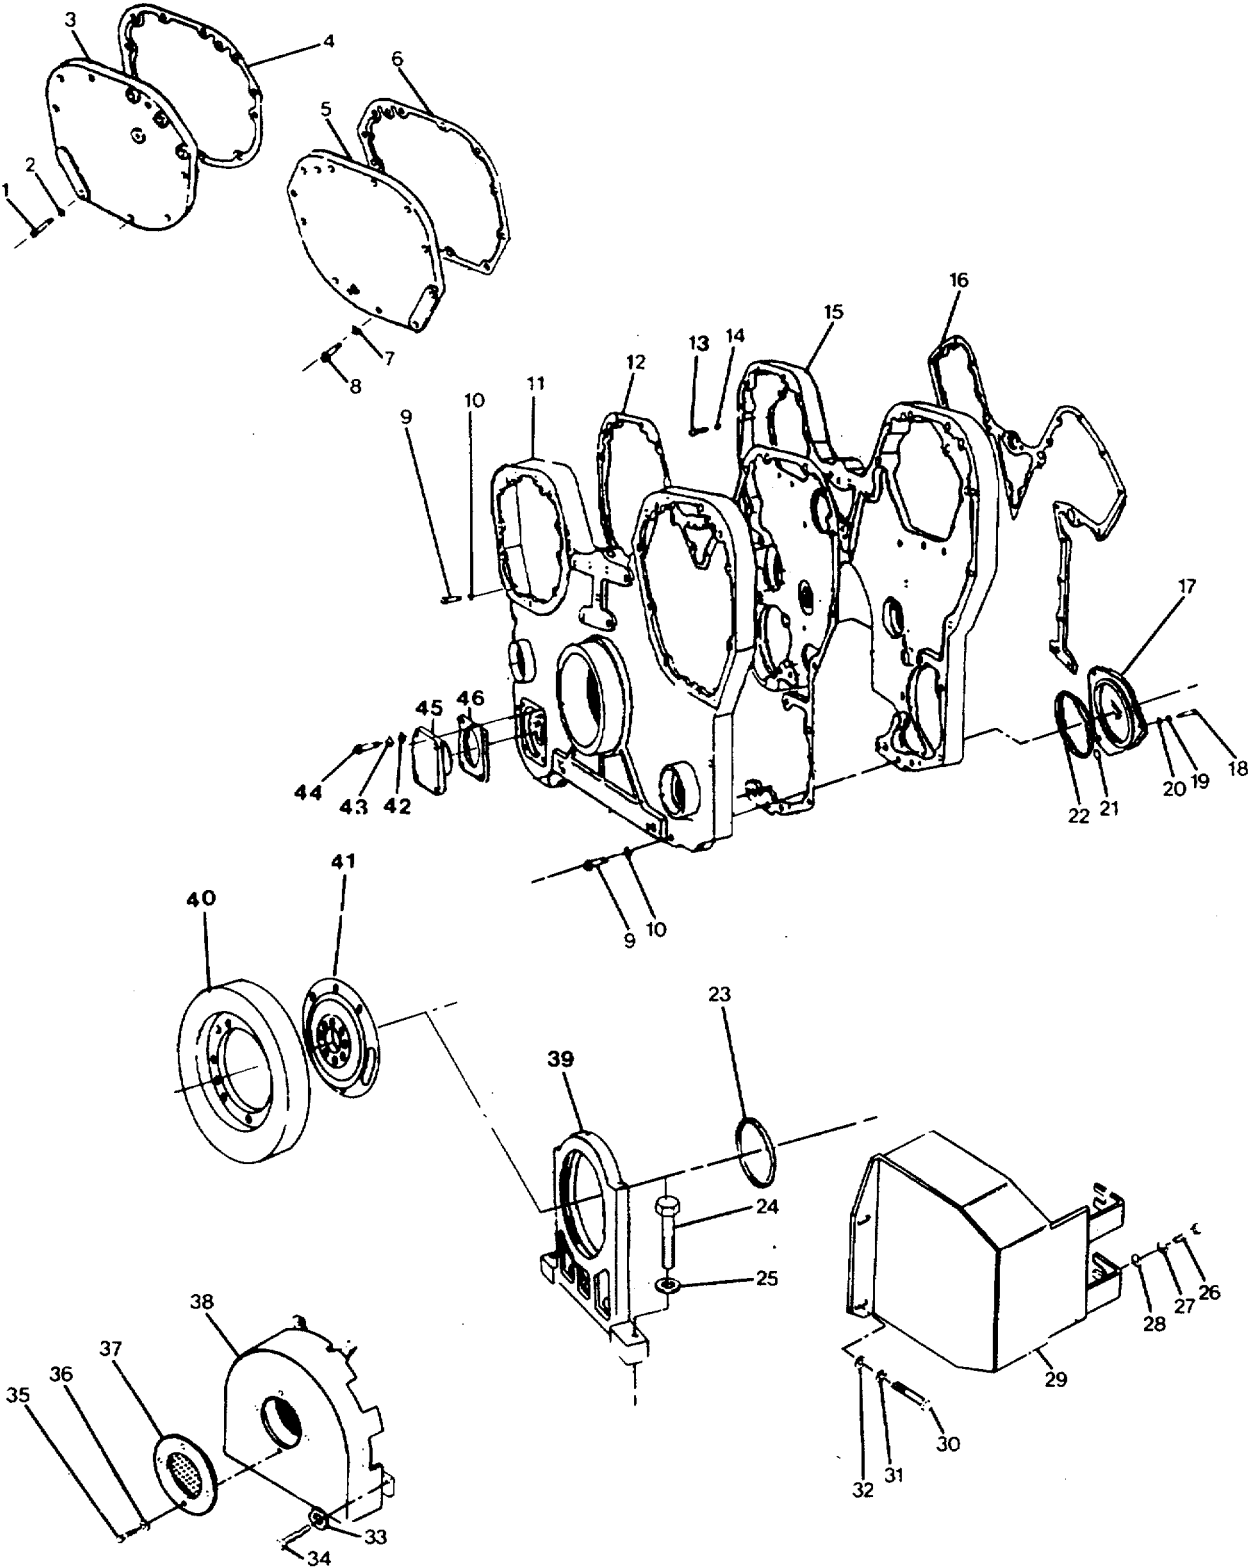

FIGURE 3-13. Pulley Shields and Front Gear Housing Group.
- a. Remove damper screen guard (37, FIG. 3-13).
- (1) Remove four hexagon head capscrews (35) and lockwashers (36).
- (2) Separate damper screen guard (37) from damper guard (38).
- b. Remove damper guard (29).
- a. Replace access plate (17, FIG. 3-13).
- (1) Position small preformed packing (21) in counterbore located around oil bore in backside of front gear housing (15). Use Lubriplate to hold packing in position.
- (2) Install large preformed packing (22) in groove of access cover (17). Lubricate packing with clean engine lube oil.
- (3) Position access cover (17) on front gear housing (15) with bolt holes aligned.
- (4) Install short hexagon head capscrews (18) with lockwashers (19) and flat washers (20) in bolt hole located farthest from engine block.
- (5) Install hexagon head capscrews (18) with lockwashers (19) and washers (20).
- (6) Torque capscrews (18) to 40 ft-lb (54 Nm).
- b. Replace front gear housing (15).
- d. Replace access cover (11, FIG. 3-13).